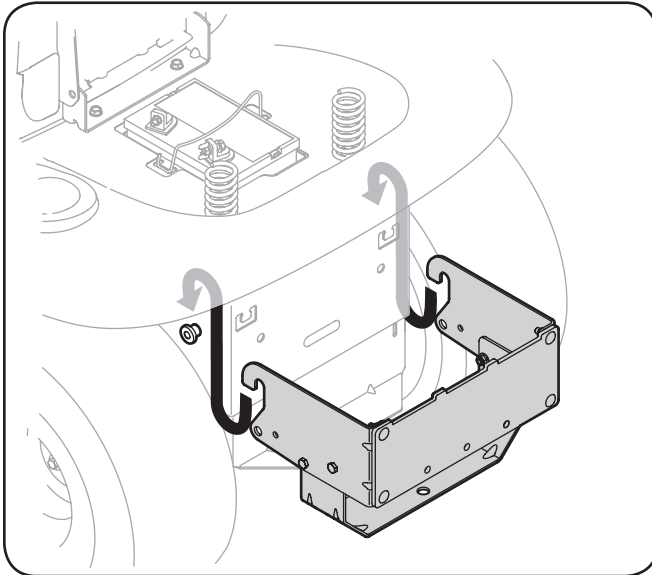

Figure 4-5
1. Place the hooked ends of the mounting assembly over the shoulder bolts, as in Fig. 4-5, on the tractor and line up the hitch support bracket center hole with the hole on the tractor's hitch.